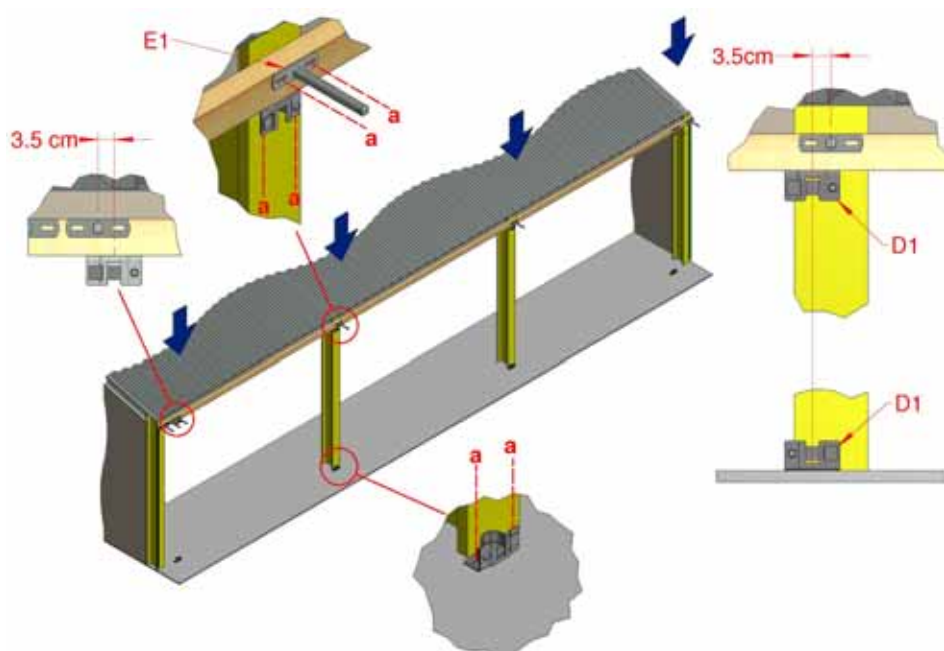
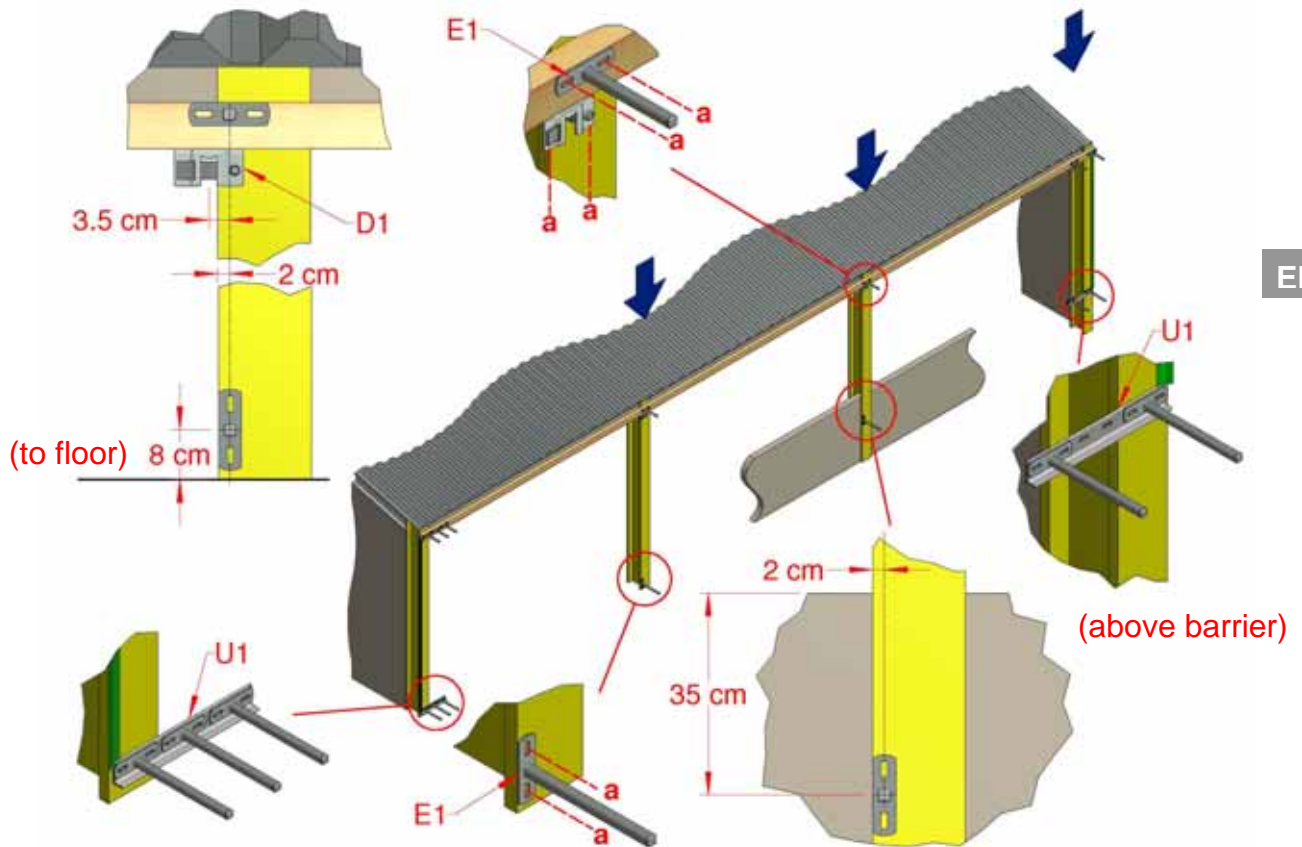

Figure 5a, Intermediate Control Tube Bracket Installation (Face-End)
Figure 5b, Intermediate Control Tube Bracket Installation (Face-Face)
- 2.3 Fit the upper Face Brackets (E1) at each intermediate bay upright as shown in Figure 5a. The top edge of these brackets must be aligned horizontally with the end Face Brackets at the ends of the installation.
- 2.4 At each intermediate bay upright fit the upper End Supports (D1) to the underside of the wooden beam so that the Supports have a 3.5cm offset from the middle of the upper Face Bracket as shown in Figure 5a for Face-End and Figure 5b for Face-Face configuration.
- a) For Face-End installation pre-drill the lower inner End Support (D1) holes in the floor vertically aligned with the upper End Supports, the supports will not be fixed until the intermediate control tubes are fitted, Figure 5a.
- b) For Face-Face installation fix the lower Face Bracket (E1) vertically aligned with the upper Face Bracket and in the orientation shown in Figure 5b, noting the offset above the floor or below the barrier for the respective option ordered. Fit the Face-Face lower Cover Bracket (U1) and Face Brackets (E1) to the building upright at a height to match the lower Face Brackets on the intermediate Control Tubes and aligned vertically with the upper Face Brackets.